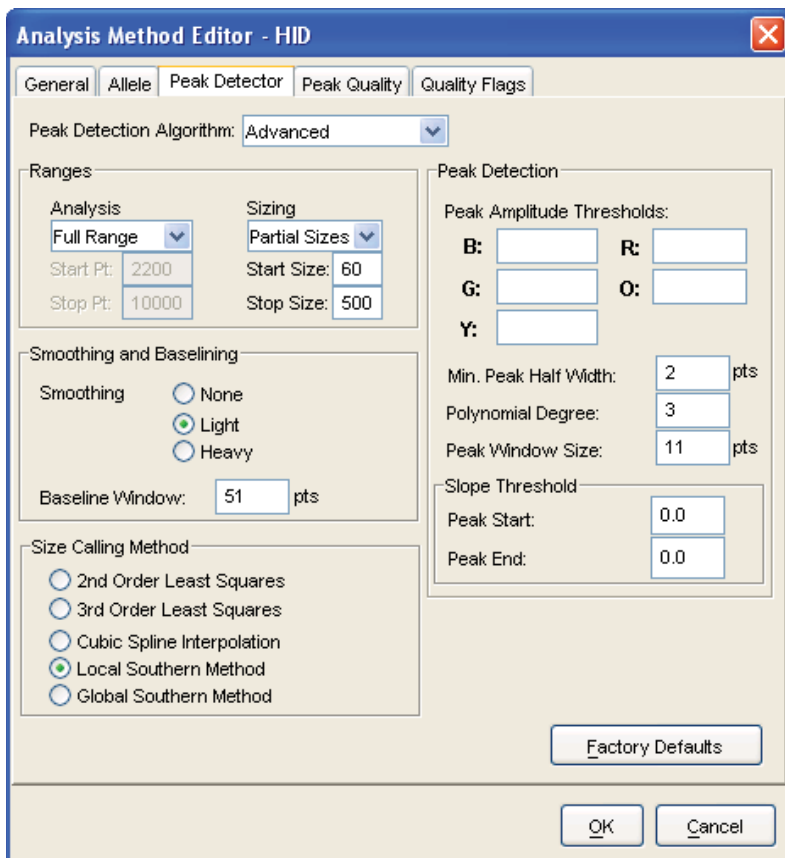

Figure 19. The GeneMapper® ID 'Peak Detector' tab.
10. Select the 'Peak Detector' tab (Figure 19). You will need to optimize these settings. In-house validation should be performed.
- c. The peak window size shown in Figure 19 is not the default setting. It has been changed to 11 from the default value of 15. This ensures that the software can resolve alleles in the ladder that are 1 base apart for the larger loci, such as D1S1656, D12S391 and D2S441.
- c. The peak window size shown in Figure 19 is not the default setting. It has been changed to 11 from the default value of 15. This ensures that the software can resolve alleles in the ladder that are 1 base apart for the larger loci such as D1S1656, D12S391 and D2S441.